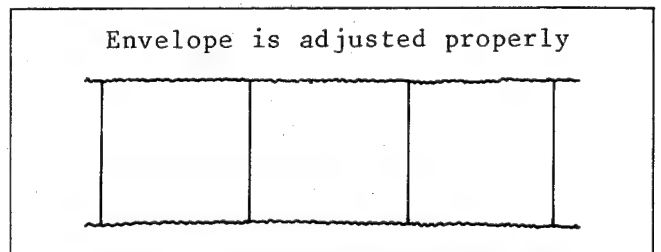

Fig. M40 Envelope Figure-(4)
3. When the scope display is as follows, adjust the height of P2 so that the waveform looks like Fig. M40.
4. When the scope display is as follows, adjust the height of P3 so that the waveform looks like Fig. M40.